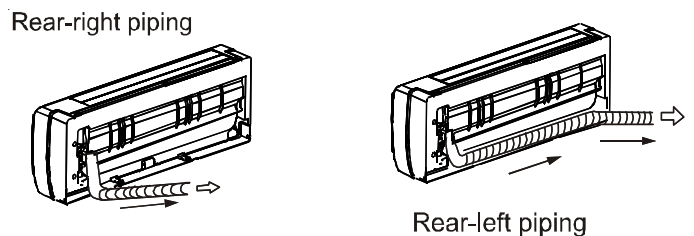

Figure 9
- For the rear right-hand and rear left-hand piping, install as shown in Figure 9.